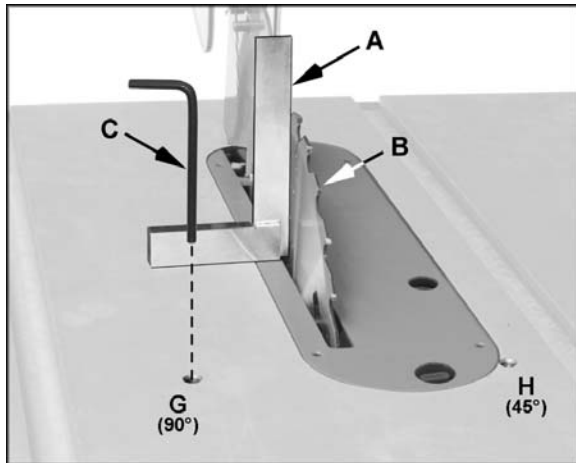

Figure 24
- Place a square (A, Figure 24) on the table and verify that blade (B, Figure 24) is at 90° to table. Make sure that the square is not touching a blade tooth.
- Back out the 90° adjust setscrew (G, Figure 24) counterclockwise one or two turns with 4mm hex key (C, Figure 24).
- Tighten the 90° adjust setscrew (G) until it stops, but do not force.